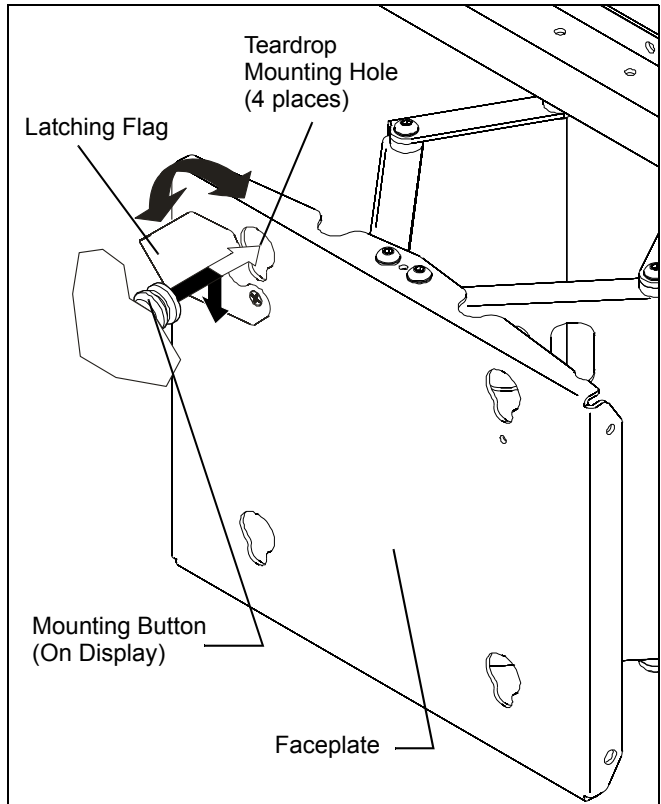

Figure 7
1. Lower latching flag. (See Figure 7)
3. Align mounting buttons on display with teardrop mounting holes in mount faceplate (See Figure 7).
5. Lower display until the recessed area of all four mounting buttons is seated in the lower area of teardrop mounting holes in faceplate. (See Figure 7)